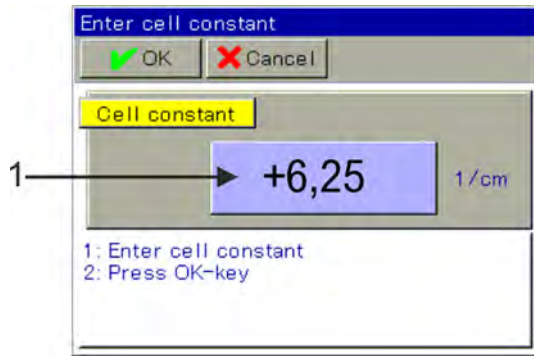

Fig. 76: Press the button to make an entry (1)
6. ▶ Enter the cell constant of the sensor a (6.9) and confirm with "OK". (See Fig. 76 .)